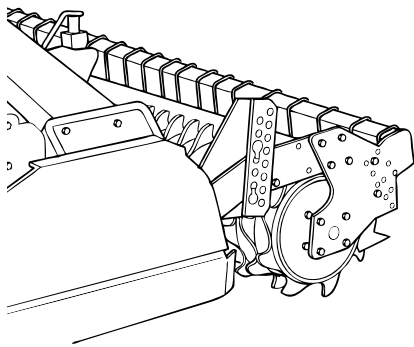

Fig. 12
1. By means of side pins (standard - Fig. 12). This solution not only permits depth adjustment, but also having a floating rear roller (ideal when there are stones).